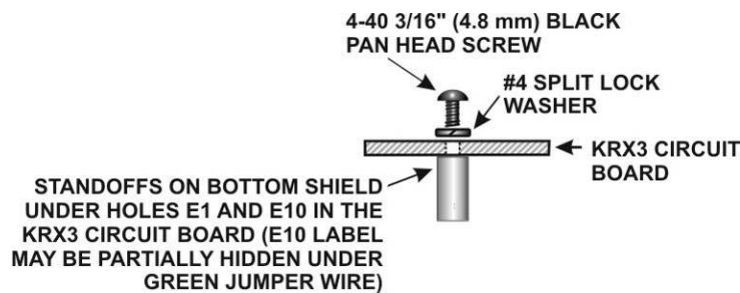

Figure 40. Mounting KRX3A Main PC Board on Bottom Shield.
□ Secure the KRX3A main circuit board to the standoffs at E1 and E10 with 4-40 3/16" (4.8 mm) black pan head screws and #4 split lock washers as shown in Figure 40.